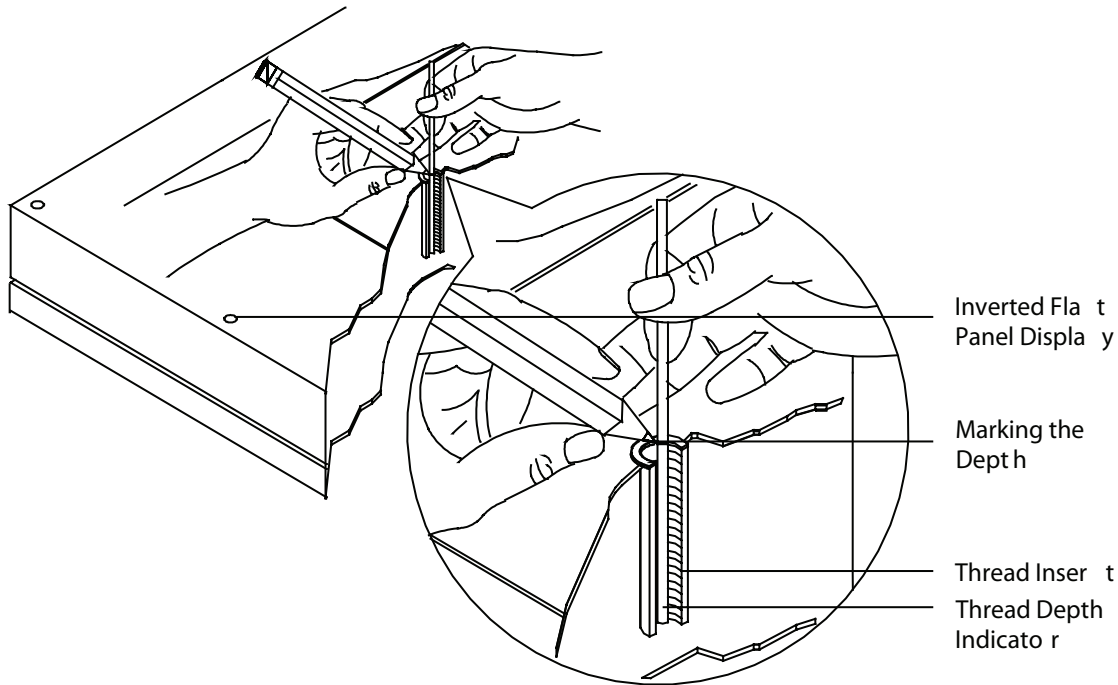

Figure 1
1. Insert the thread depth indicator (supplied) through the thread inserts found on the back of the flat panel to make sure the inserts measure the same full depth and mark it (Figure 1).